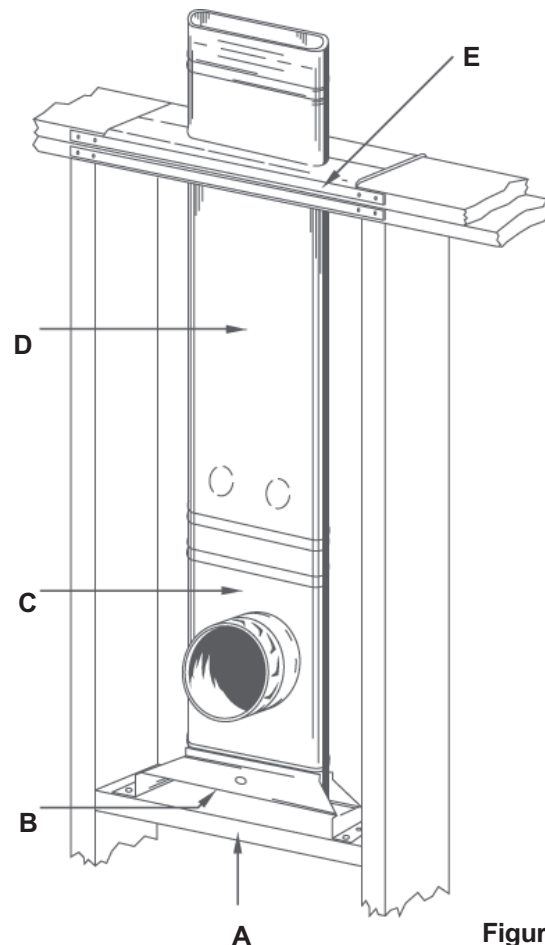

Figure 17
5. The Firestop Spacer (FS) must be installed at each floor level. See **Figure 17**.
NOTE: Only the straight Vent Pipe Sections, with or without the Oval Tee, may be used inside the stud bay with reduced clearances to combustibles. See **Figure 17**.
2. Nail a 2x4 support (A) at the desired height between the studs. See **Figure 17**.
3. Attach the Tee Support (B), the Tee (C) with the Oval Tee Cap, and the Vent Pipe (D) as shown on **Figure 17**.
4. At each floor level above the Tee, install the Firestop Spacer (E) as shown in **Figure 17**.